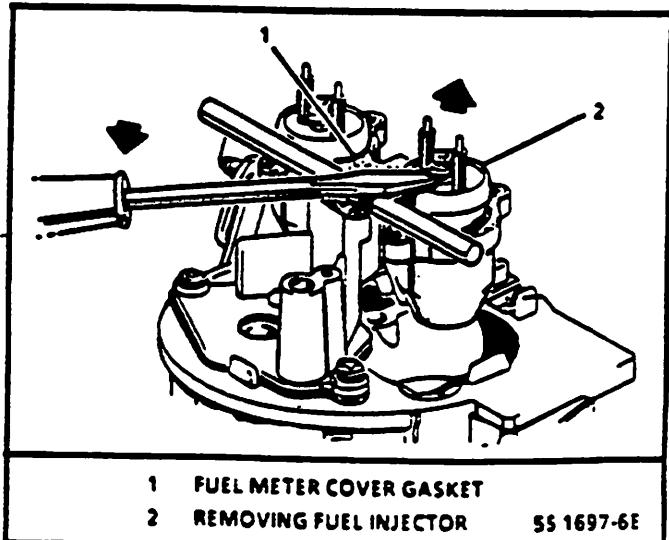

Figure 20 - Removing Fuel Injector
3. With fuel meter cover gasket in place to prevent damage to casting, use a screwdriver and fulcrum to carefully lift out each injector (Figure 20).